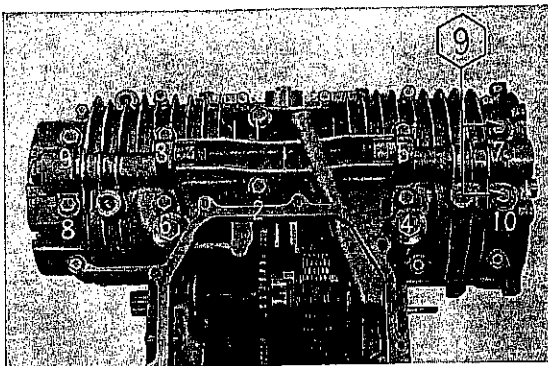
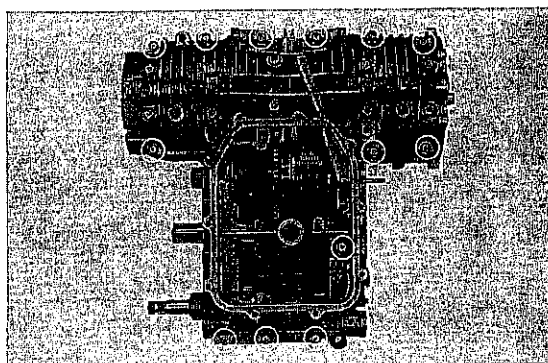

Fig. 152 8 mm mounting bolts
Fig. 153 6 mm mounting bolts
8. Loosen the ten 8 mm bolts and the twelve 6 mm bolts from the lower crankcase. Loosen the 8 mm bolts in the reverse order shown in Fig. 152.
3. Measure the crankshaft journal wear. Cut a length of plasti gauge to the width of the bearing cap. Place the gauge on the bearing parallel to the crankshaft. Assemble the crankshaft and torque the crankcase down in accordance with Fig. 152.
1. Remove the bearing. Assemble and tighten the upper and lower crankcases. Refer to Fig. 152.
6. Place the engine upside down so that the parting surfaces will not be separated. Install the ten 8 mm bolts. Torque the 8 mm bolts in the sequence shown in Fig. 152 to a torque of 2.3-2.5 kg-m. (16.63-18.08 lbs-ft). Tighten the thirteen 6 mm bolts. (Fig. 153)